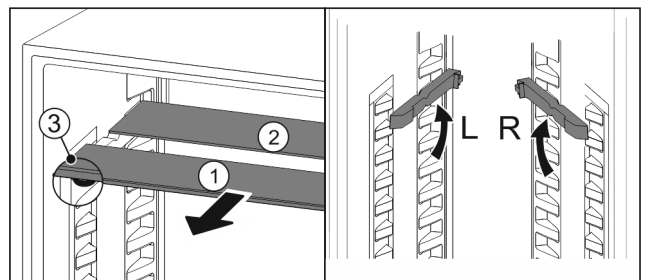

Fig. 20
- ▶ Pull the glass panels out Fig. 20 (1) from the front, one at a time.
- ▷ The glass panel Fig. 20 (1) and trim strip are at the front.
- ▷ The stops Fig. 20 (3) point down.